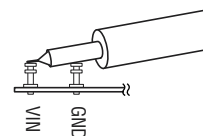

Figure 2. Scope Probe Placement for Measuring Input or Output Ripple
**NOTE:**When measuring the input or output voltage ripple, care must be taken to avoid a long ground lead on the oscilloscope probe. Measure the input or output voltage ripple by touching the probe tip directly across the VIN or VOUT and GND terminals. See Figure 2 for proper scope probe technique.